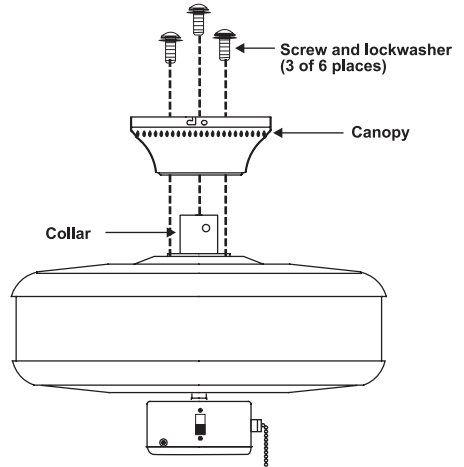
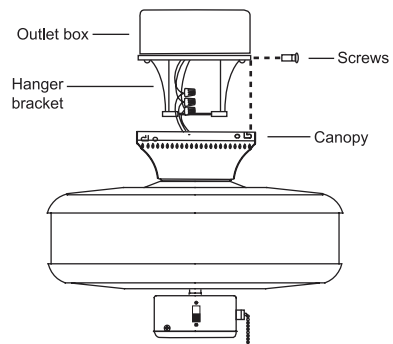

Fig.9
Fig.11
4. Place the ceiling canopy over the collar at the top of the motor. Align the mounting holes with the holes in the motor and fasten using the screws and lock washers provided (Fig.9).
5. Tighten the mounting screws securely.(Fig.9)
Remove the fan from the hook on the hanger bracket (Fig.9). Secure the canopy to the hanger bracket by placing screws into slot in canopy. Twist clockwise to lock in place, tighten four screws firmly. (Fig.11)